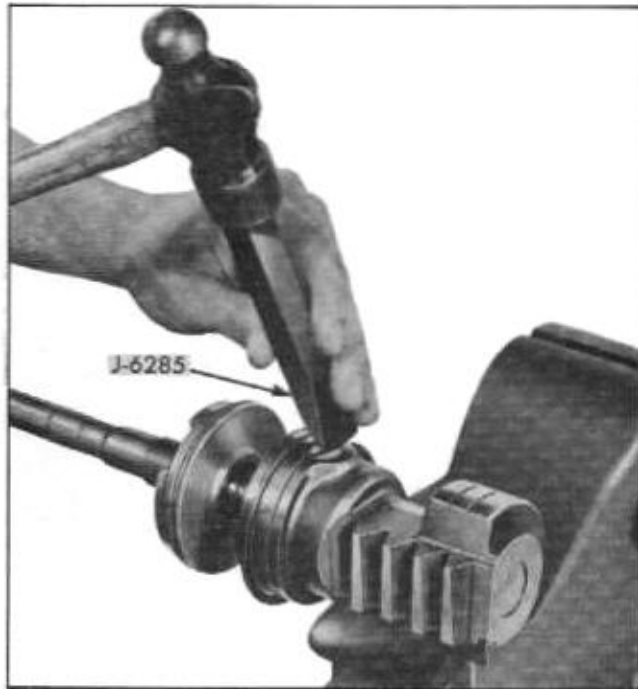

Fig. 9-54 Staking Ball Nut Retainer Screw
8. Install ball nut retaining screw and tighten to 30 to 35 lb. ft. torque using Tool J-6223. Stake screw securely in two places using Tool J-6285 (Fig. 9-54). Lubricate piston rings and install on rack-piston.